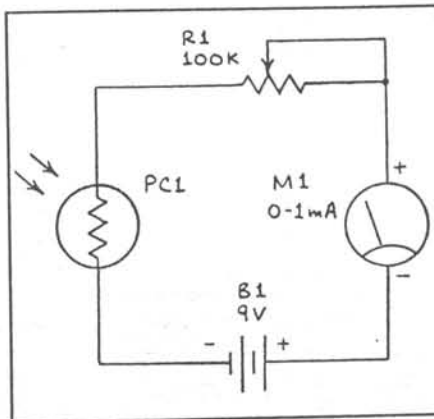
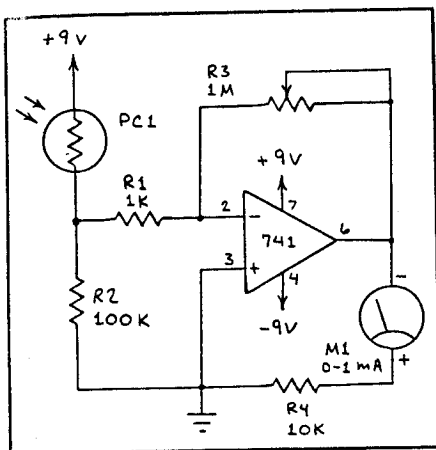

Fig. 7. A simple photoresistor light meter.
Fig. 8. A photoresistor light meter with a gain stage.
• *Simple Light Meter.* Shown in Fig. 7 is the schematic diagram of an ultra-simple but surprisingly sensitive photoresistor light meter. Potentiometer *R1* controls the meter's sensitivity. If you wish greater sensitivity from this circuit, you can use a 0-to-50-microampere meter movement for *M1*.
• **Advanced Light Meter.** Considerably more sensitivity to light can be obtained with the circuit shown in Fig. 8. Indeed, at its most-sensitive setting, the circuit is difficult to use because the light level required to read the meter may itself be bright enough to forcefully peg the meter's pointer!
As with the Fig. 7 circuit, many different photoresistors can be used in the Fig. 8 circuit. A high light-to-dark resistance ratio will provide best results.